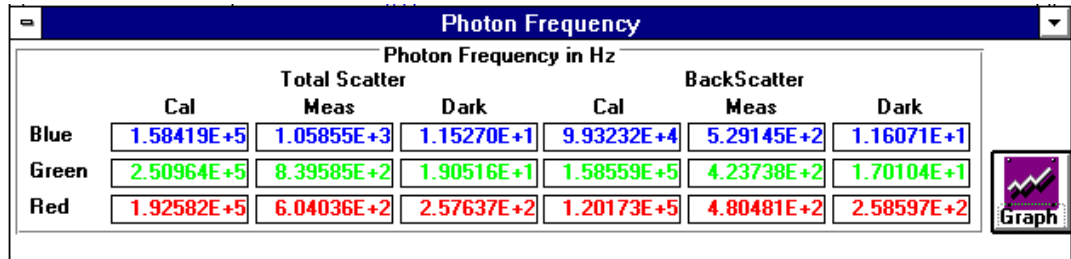

Figure 5-7
3. Double-click on the **Photon Frequency** icon (you don't need to close either the Data Display window or the Neph State window) to display the Photon Frequency window (Figure 5-7).